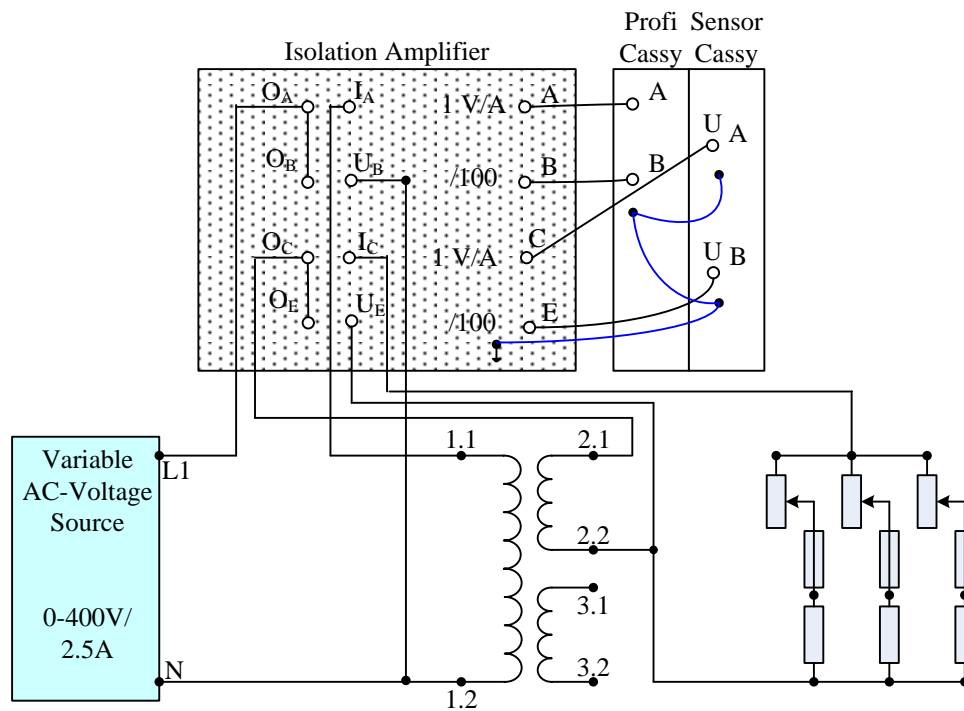

Figure 4 Circuit for investigating voltage behavior with resistive load and for evaluating efficiency
17. Change the circuit to match Fig. 4.